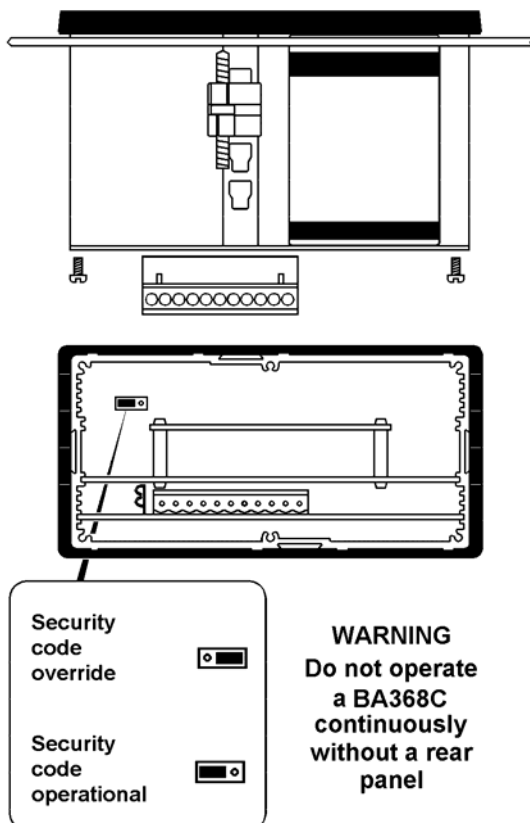

Fig 1.4 Location of security override link
To gain access to the security code link, remove the instrument terminal block(s) by gently pulling. Remove the six screws securing the rear panel and lift off the panel which will reveal the link – see Fig 1.4
- Remove the rear terminal block(s) and the rear panel as shown in Fig 1.4